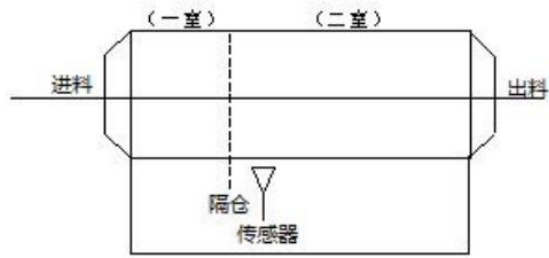

图 2
- (1), Longitudinal (see Figure 2)